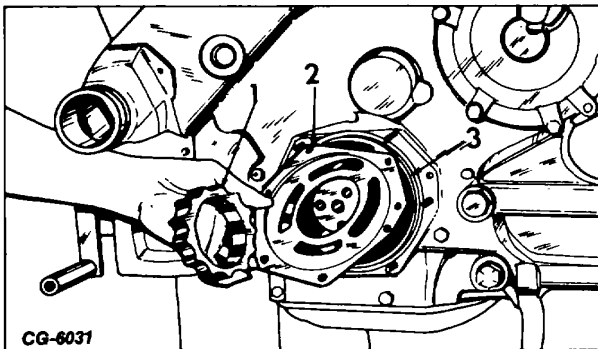

Figure 7. - Removing Inner Rotor and Housing Plate
4. Remove the inner rotor (1, Fig. 7), housing plate (2) and "O" ring (3), as shown.
5. Remove the seal washer (2, Fig. 7) from the crankshaft (if equipped).